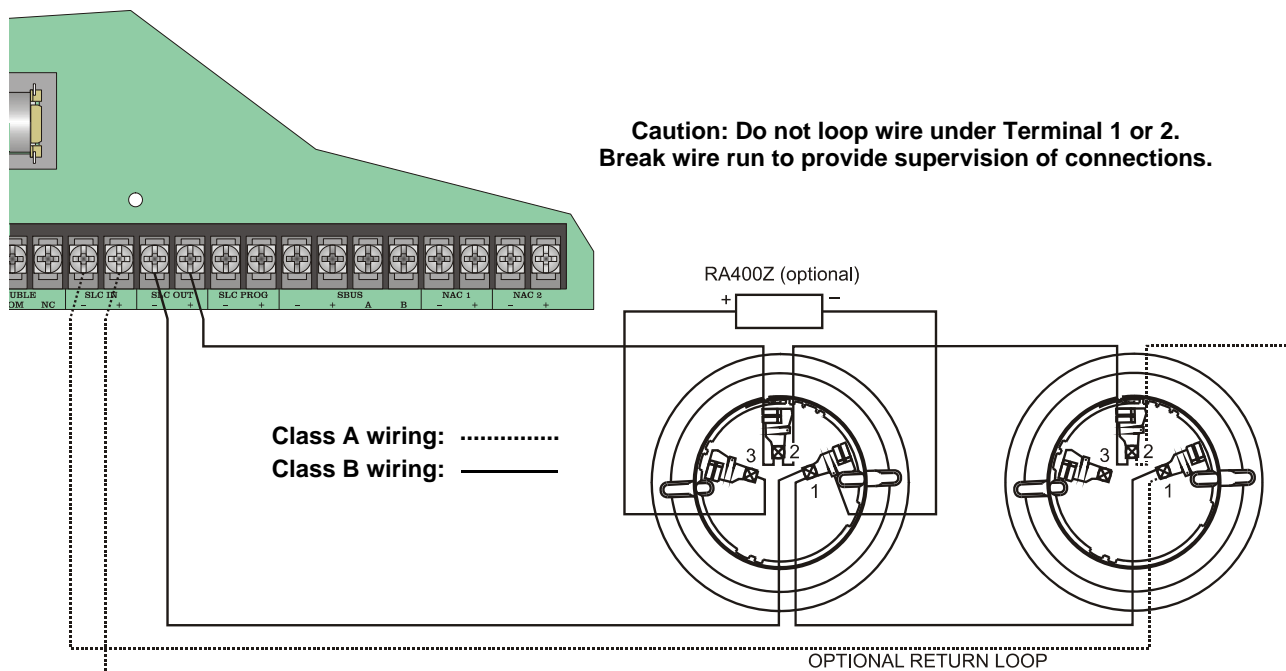

Figure 5-4 Heat and Smoke Detector Connection to the Panel.
1. Wire device bases as shown in Figure 5-4.